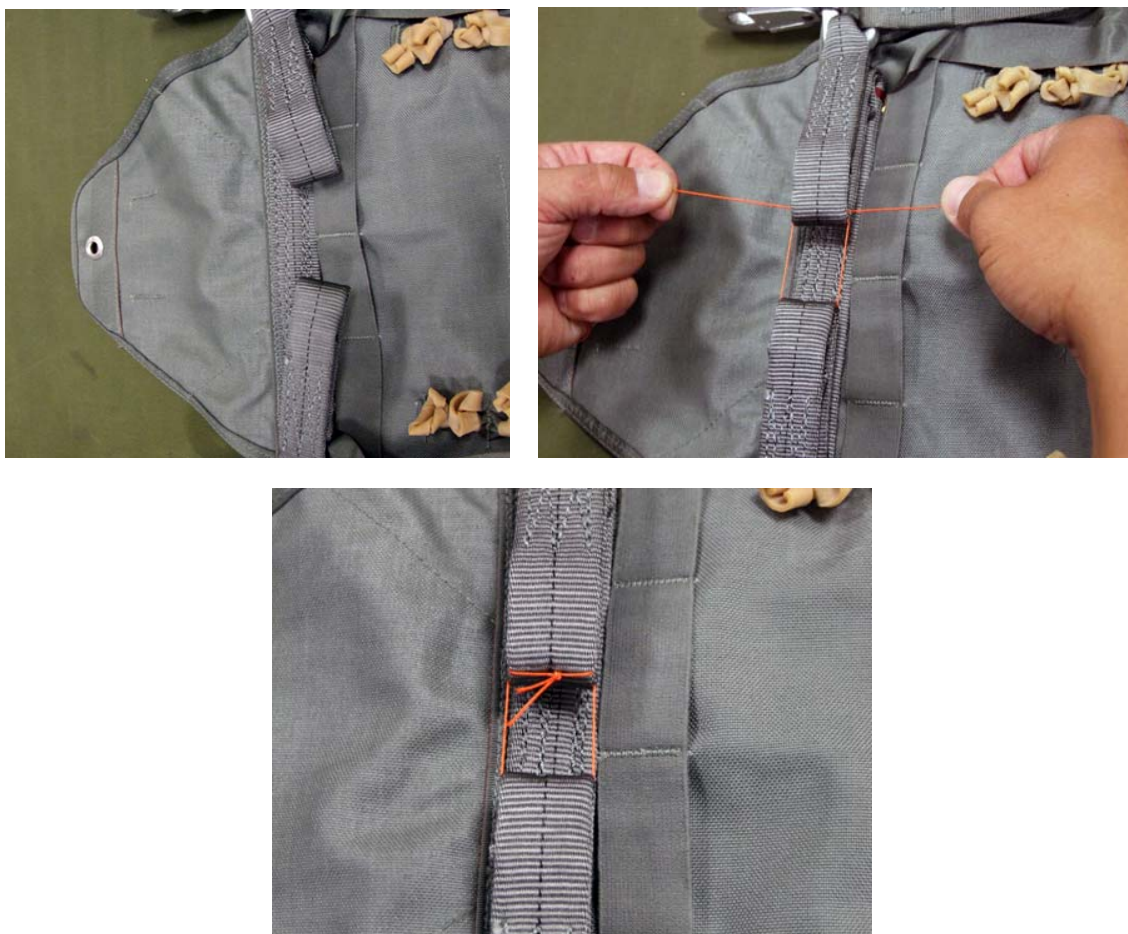

Figure 67. Securing the Excess Spreader Bar Fold-over.
13. Using an 8-inch piece of thread, cotton, ticket 8/4, orange, route from the right side to the left side in a counter-clockwise direction between the plies of the excess fold-over from the spreader bar and back through the right side (Figure 67).